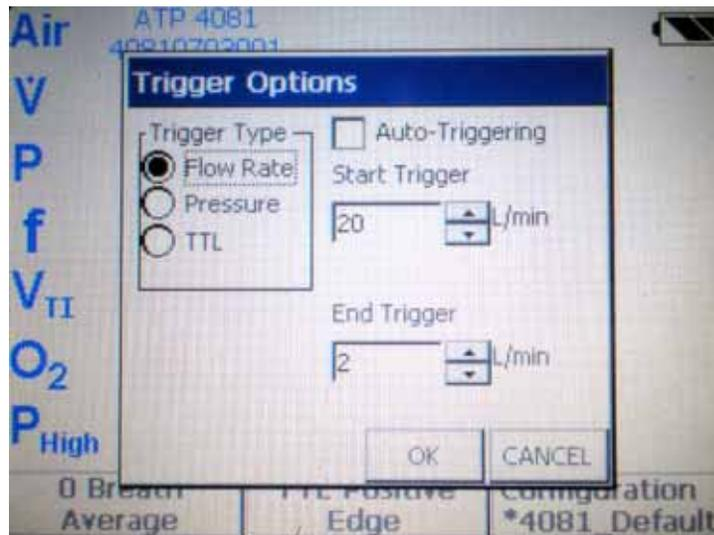

Figure 8-6: Trigger Options Screen
2. Select Flow Rate (refer to Figure 8-6) and verify Auto-Triggering is *not* checked.
3. Use the up or down direction arrows to select 20 L/min for Start Trigger and 2 L/min for End Trigger (refer to Figure 8-6).
4. When the appropriate parameters are selected, touch OK (refer to Figure 8-6).